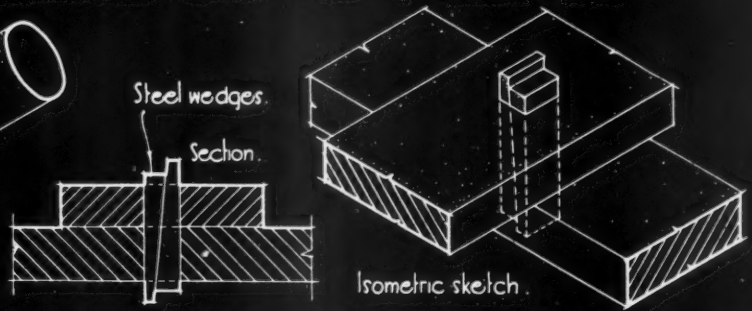

FIGURE 2 : WEDGED CONNECTION
2. By making a slot and pushing wedges into it. Figure 2.